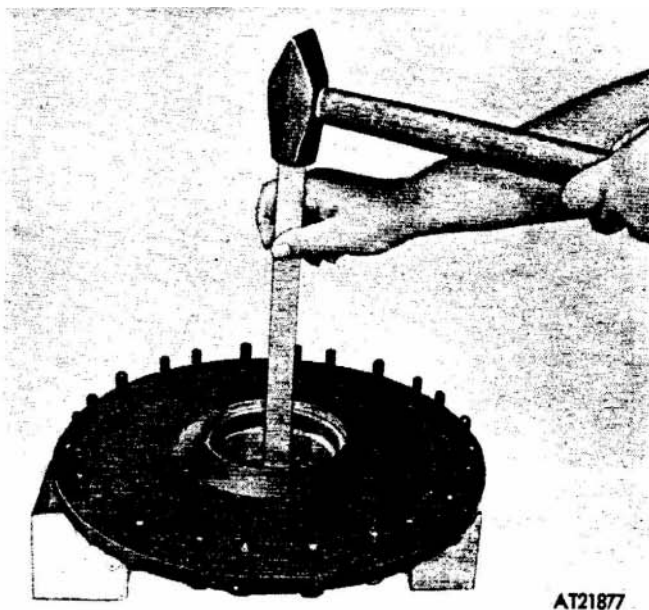

Figure 2-224. Hub rear seal wiper and bearing cone removal
(19) Turn hub over and using a soft face drift remove hub rear wiper ring and inner bearing cone (fig 2-224).